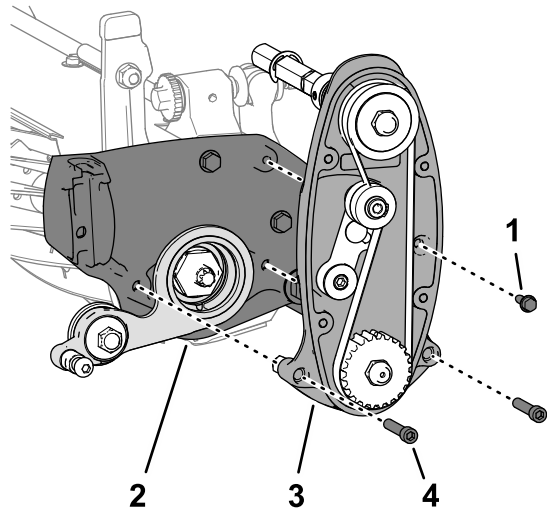

Figure 17
1. Align the idler assembly to the cutting unit as shown in Figure 17.
2. Assemble the idler assembly and reel drive to the cutting unit (Figure 17) with the 2 socket-head screws (5/16 x 1-1/2 inches) and locknuts (5/16 inch) that you removed in 4 Removing the Reel-Drive \(page 5\).
3. Assemble the reel drive to the cutting unit (Figure 17) with the flange-head screw (1/4 x 3/4 inch).